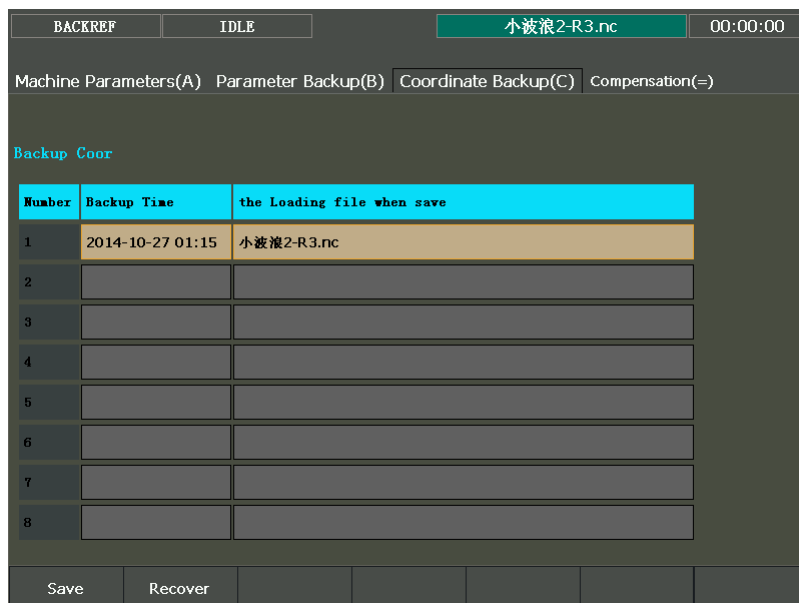

Fig. 3-76 Coordinate backup interface
[Coordinate Backup (C)] screen under [Parameter] function area is as shown in Fig. 3-76.